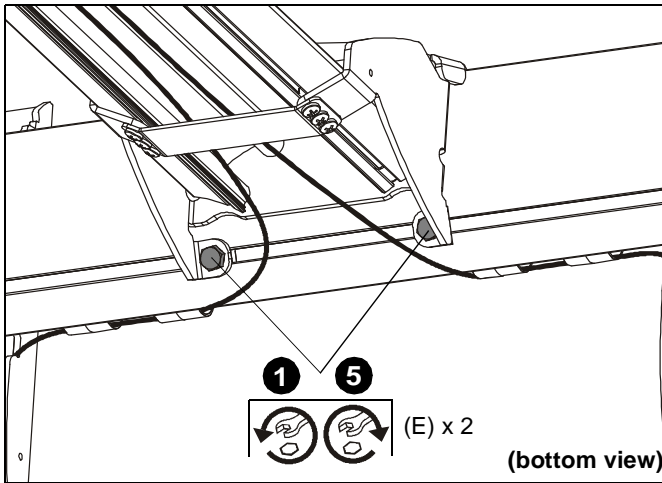

Figure 36
1. Loosen two 1/4-20 x 5/8" hex head cap screws (E) on underside of mounting bracket. (See Figure 36)
5. Tighten two 1/4-20 x 5/8" screws (E) on underside of mounting bracket. (See Figure 36)